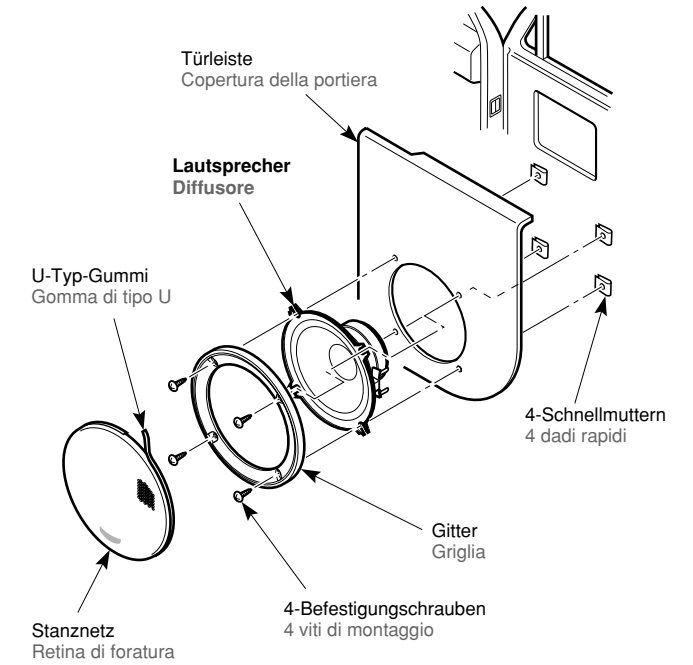

Abbildung 4 / Figura 4
2. Install the speed nuts in the screw holes in the door trim, then use the mounting screws to install the speaker grille. (Figure 4)
3. Attach the supplied U-type rubber onto the punching net and install it onto the grille. (Figure 4).